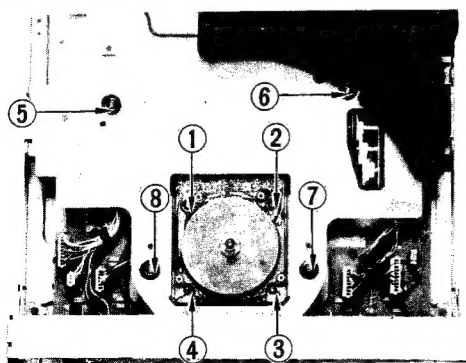

Fig. 10
Removal screws ① ~ ④ shown in Fig. 10, and remove the motor.
Remove screws ⑤ ~ ⑧ shown in Fig. 10, and remove the turntable board.